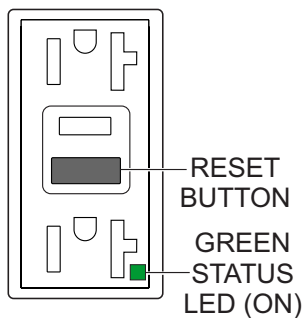

Figure 67. GFCI Receptacle (ON/Restore)
5. Press the **RESET** button (Figure 67) to restore power to the GFCI receptacle and verify that the status LED is **ON (GREEN)**.